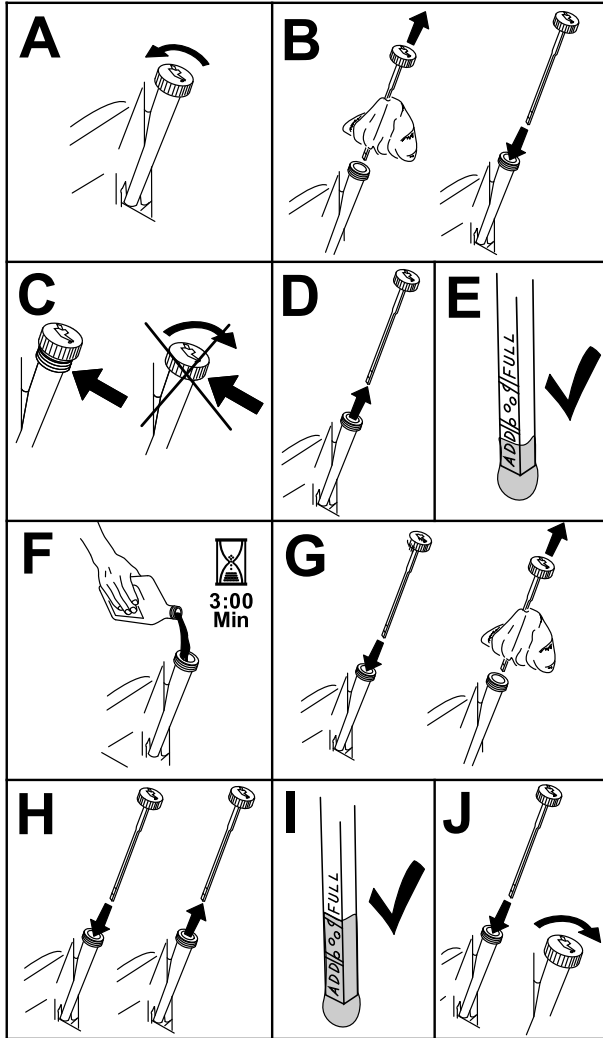

Figure 54
- Shut off the engine, remove the key, and wait for all moving parts to stop before leaving the operating position (Figure 54).